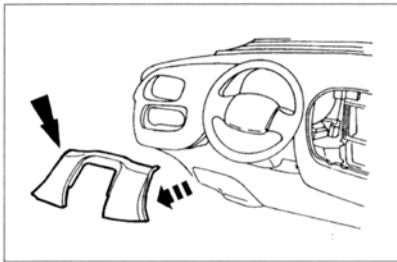
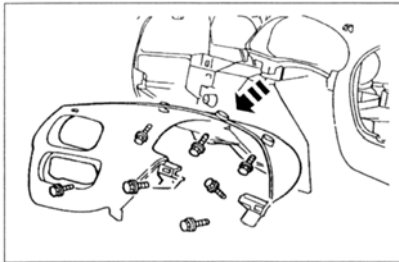

Figure 1
Figure 2
- A. Release the four clips and remove the steering column opening cover by pulling up (See figure 1). Remove the headlamp switch from the Instrument Panel. Remove the lower dash cover to access the base of HL switch. Feel for a slide lever close to dash on bottom of HL switch. Slide lever to the side to remove switch from dash. Next, remove the seven 7mm retaining bolts and remove the Instrument Panel (See figure 2).